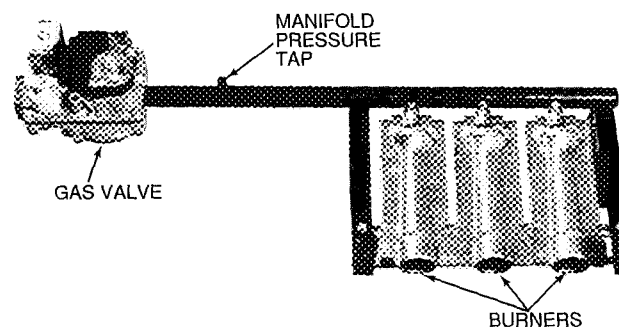

Fig. 33 — Burner Tray Details
11. Slide the burner tray out of the unit (Fig. 33).